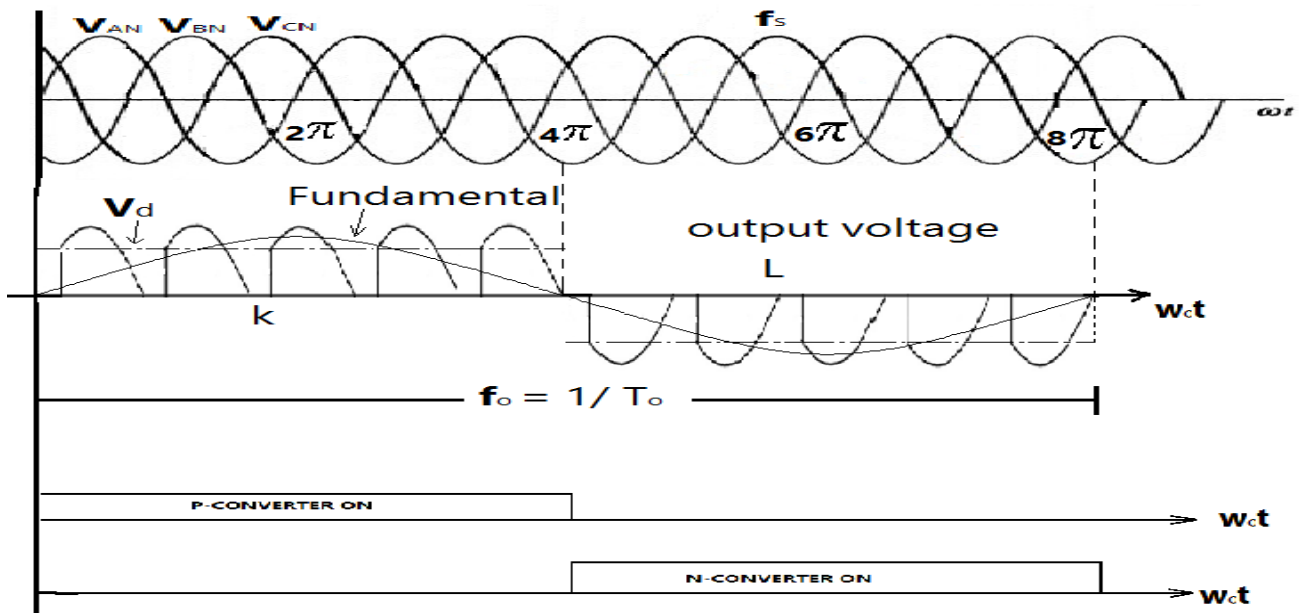

Fig.5 Waveform for resistive load
- If the output of 3-phase to single-phase converters of the same kind are connected in *Y* or Δ and if the output voltages are $\frac{2\pi}{3}$ radians phase shifted from each other, the resulting converter is a three-phase to three-phase cycloconverter as shown in Fig.5